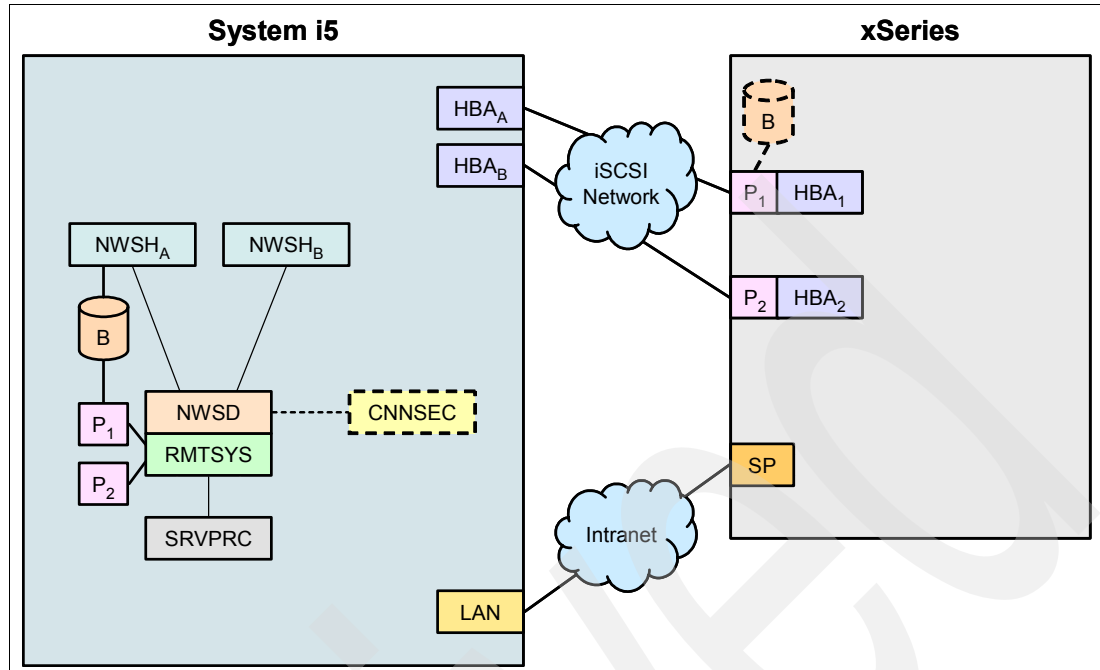

Figure 9-10 Configuration 2 : 1 : 2 : 1 : X
Figure 9-10 on page 347 shows a configuration where you are adding bandwidth to an xSeries server by adding an additional target-initiator HBA pair. This effectively doubles the bandwidth between the xSeries server and i5/OS partition. You might want to add bandwidth if the xSeries server is running an I/O intensive application such as Microsoft SQL server, or if you are heavily using a Virtual Ethernet LAN connection on the xSeries server.
In Figure 9-10, note the following points:
- ▶ One of the initiator HBAs' ports on the xSeries server must be identified as the boot port. The *boot port* is the initiator HBA port where the hosted server looks for a bootable disk drive, or in this case, a virtual disk containing the Windows operating system. For example, in Figure 9-10, P₁ has been specified as the boot port in the RMTSYS configuration object. If there were only one initiator HBA port in the hosted server, this port would automatically be deployed as the boot port.